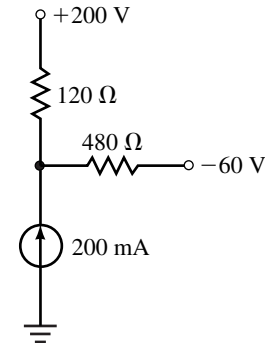

FIGURE 9-78
4. Using superposition, find the current through the 480-Ω resistor in the circuit of Figure 9-78: